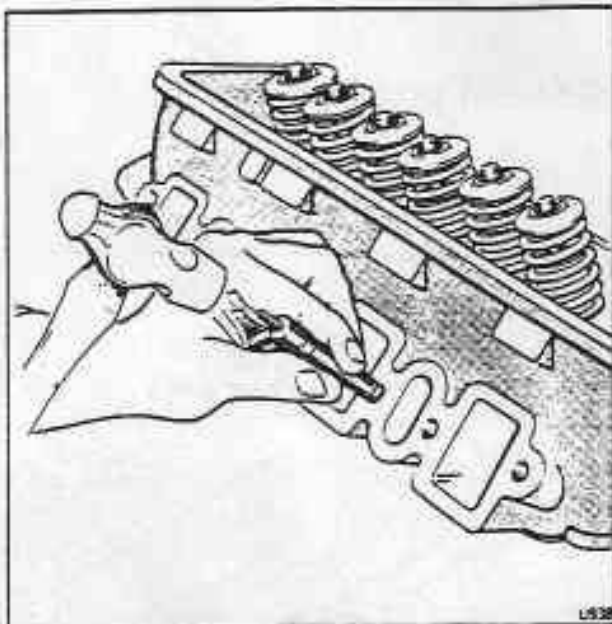

Fig. A6-3 Heli-coil tang 'break-off' tool
9. Fit the special tang break off tool (punch) into the insert as shown in figure A6-3.